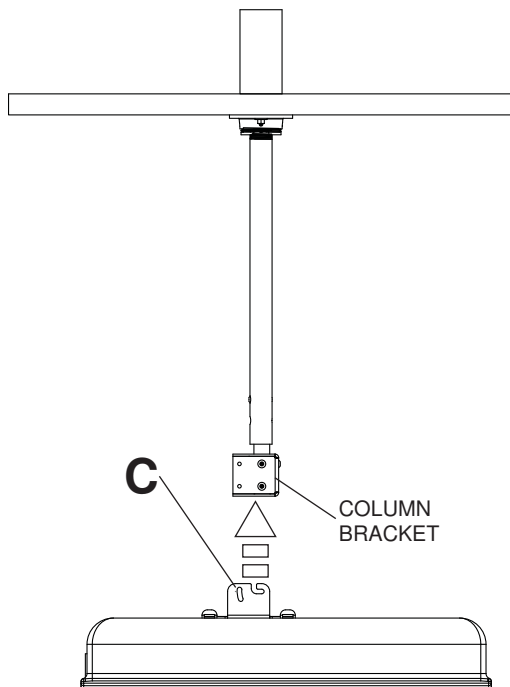

fig. 6-1
- 6** Hook tilt bracket (**C**) onto column bracket (see figure 6-1). Secure with two M5 screws (**F**) (see figure 6-2). Adjust tilt (20° forward and 5° back) and swivel to desired position. Tighten all screws using security allen wrench (**G**).